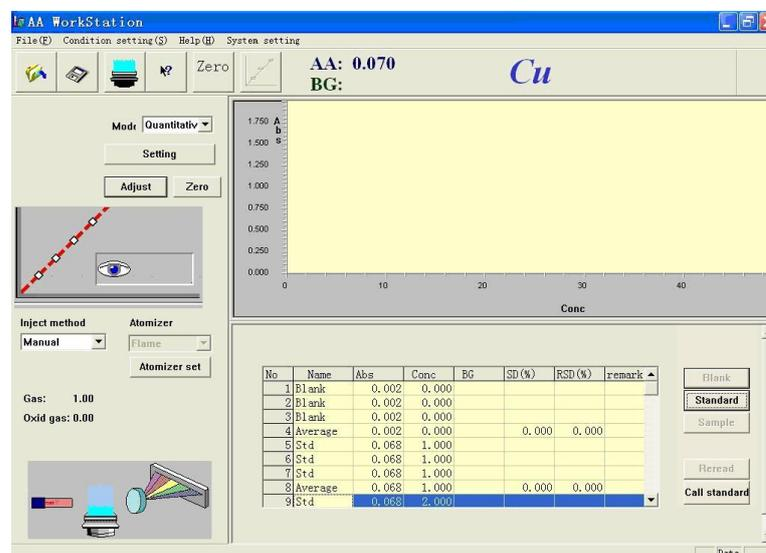

Figure 5-40b
2. Spray and suck the sample again. Press "Reread", and the screen will be shown as that in Figure 5-40b.